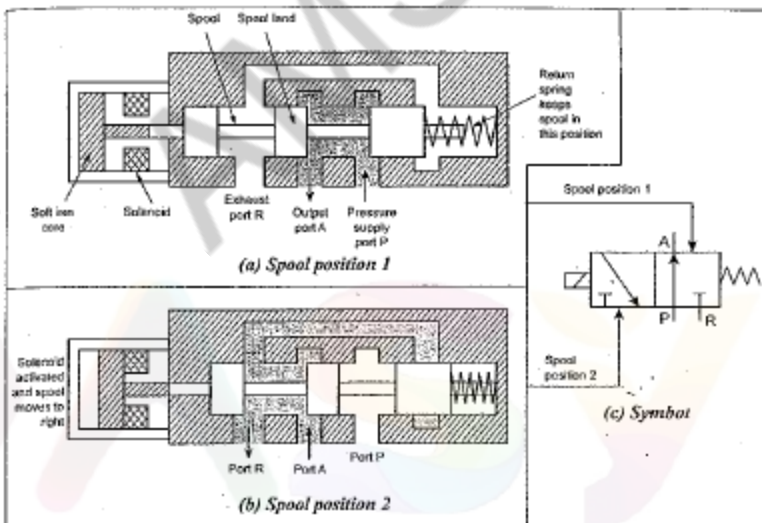

Fig. 7.11. Construction and operation of a solenoid-actuated 3/2 valve
As shown in Fig.7.11(a) and (b), the valve is actuated by a current passing through a solenoid and, returned to its original position by a spring. The spool slides over the finely finished valve bore inside the valve housing.
**Spool position 1 :** In the original or neutral position of the spool, (Fig.7.11(a)), the pressurized fluid flows from port P to port A to move the actuator, the exhaust port (R) remaining closed.
**Spool position 2 :** When the solenoid is activated (Fig.7.11(b)), the spool moves to the extreme left. In the extreme spool position, the fluid from port P gets closed and hence the fluid is permitted to flow from port A to port R.